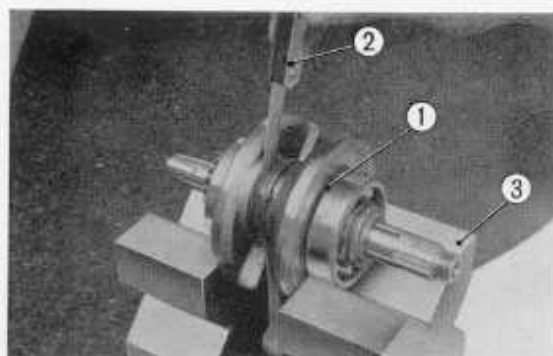

Fig. 3.83 Measuring axial clearance
- ① R. crankcase
- ② L. crankcase
- ③ Dowel pins
2. The clearance in the bearing is measured by fixing the crankshaft on centers and moving the bearing in the axial and vertical direction. (Fig. 3.83)